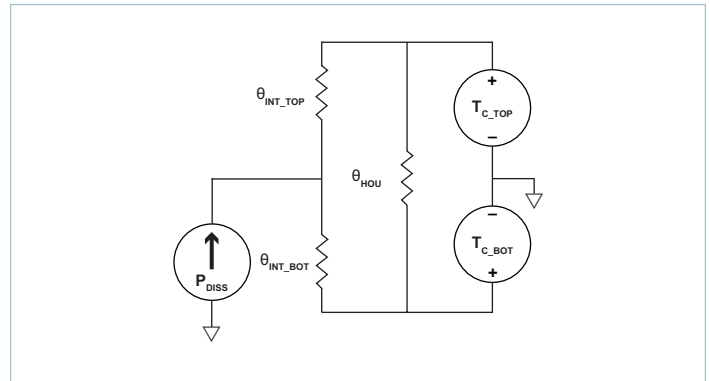
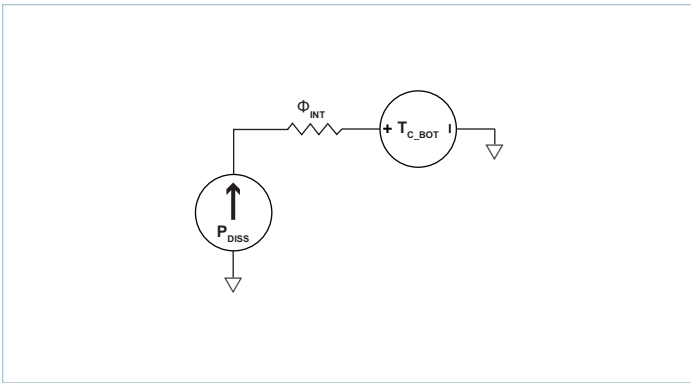

Figure 22 — Double-sided cooling VIA thermal model
Figure 23 — Single-sided cooling VIA thermal model
The VIA package provides effective conduction cooling from either of the two module surfaces. Heat may be removed from the top surface, the bottom surface or both. The extent to which these two surfaces are cooled is a key component for determining the maximum power that can be processed by a VIA, as can be seen from the specified thermal operating area in Figure 1. Since the VIA has a maximum internal temperature rating, it is necessary to estimate this internal temperature based on a system-level thermal solution. For this purpose, it is helpful to simplify the thermal solution into a roughly equivalent circuit where power dissipation is modeled as a current source, isothermal surface temperatures are represented as voltage sources and the thermal resistances are represented as resistors. Figure 22 shows the “thermal circuit” for the VIA module.
- **Single side cooling:** the model of Figure 22 can be simplified by calculating the parallel resistor network and using one simple thermal resistance number and the internal power dissipation curves; an example for bottom side cooling only is shown in Figure 23.